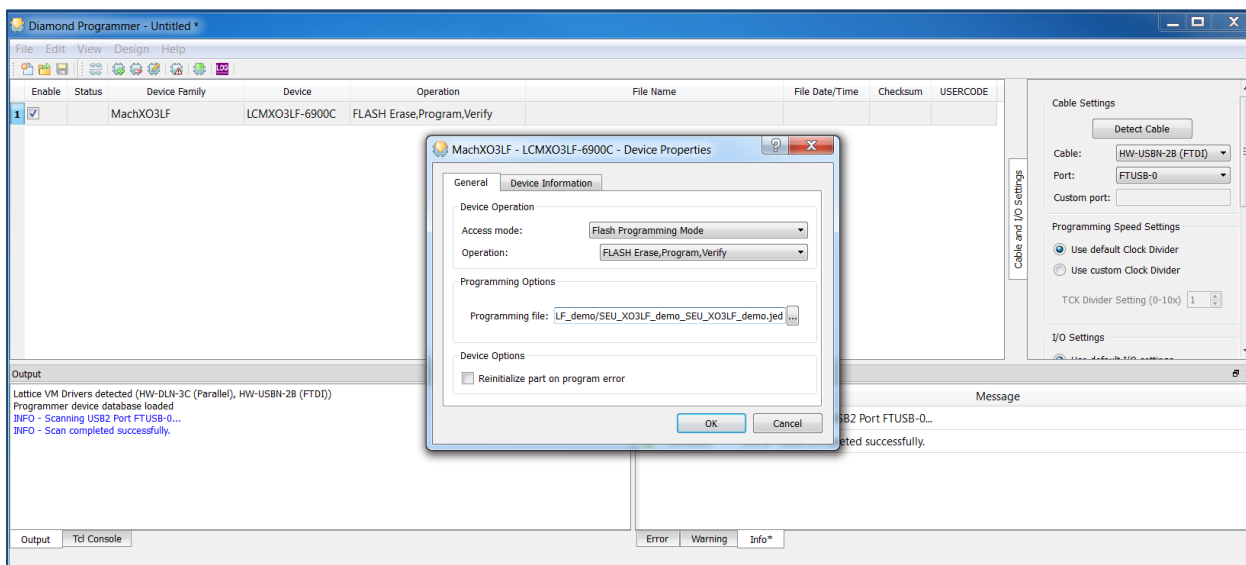

Figure 8.4. Access Mode – Flash Programming Mode
7. Select *Flash Programming Mode* from the **Access mode** dropdown list, and *FLASH Erase, Program, Verify* from the **Operation** dropdown list as shown in Figure 8.4.